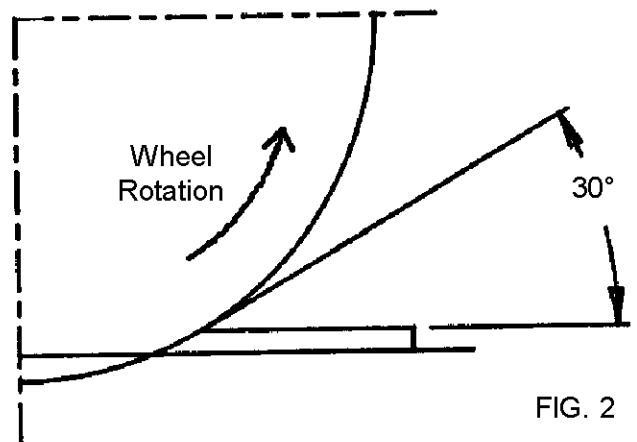

FIG. 2
NOTE: Because of the relationship of the grinding wheel to the grinder base during grinding, this grinder will give a slightly concave surface. See FIG. 2. This is normal and acceptable.
- B. Turn on the motor, with the grinding wheel rotation so the grinding wheel turns toward the blade. See FIG. 2.